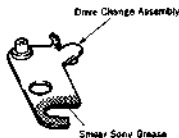
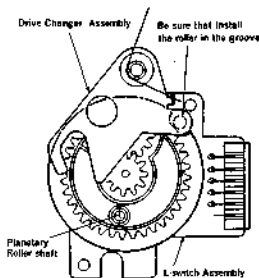

Fig. 2
Fig. 3
- (1) Replace the L-switch Assembly with a new one and apply a half drop of oil on the Planetary Roller Shaft.
- (2) Assemble the parts with Removal Steps (12) and (13) in reverse order.
- (3) Press the L-mode select button (right or left) of the Mode Selector and check that the L-switch Assembly rotates.
- (4) Apply a half drop of oil on the fixing shaft of the Drive Changer Assembly.
- (5) Smear Sony Grease to the U groove of the Drive Changer Assembly as shown in figure 2.
- (6) Assemble the parts with Removal Steps (10) and (11) in reverse order.
- (7) Press the L-mode select button (right or left) of the Mode Selector and check that the L-switch Assembly rotates.
- (8) Assemble the parts with Removal Steps (7) to (9) in reverse order.
- (9) Press the L-mode select button (right or left) of the Mode Selector so that the Planetary Roller Shaft is placed to the position shown in figure 3.
- (10) Assemble the parts with Removal Steps (1) to (8) in reverse order.